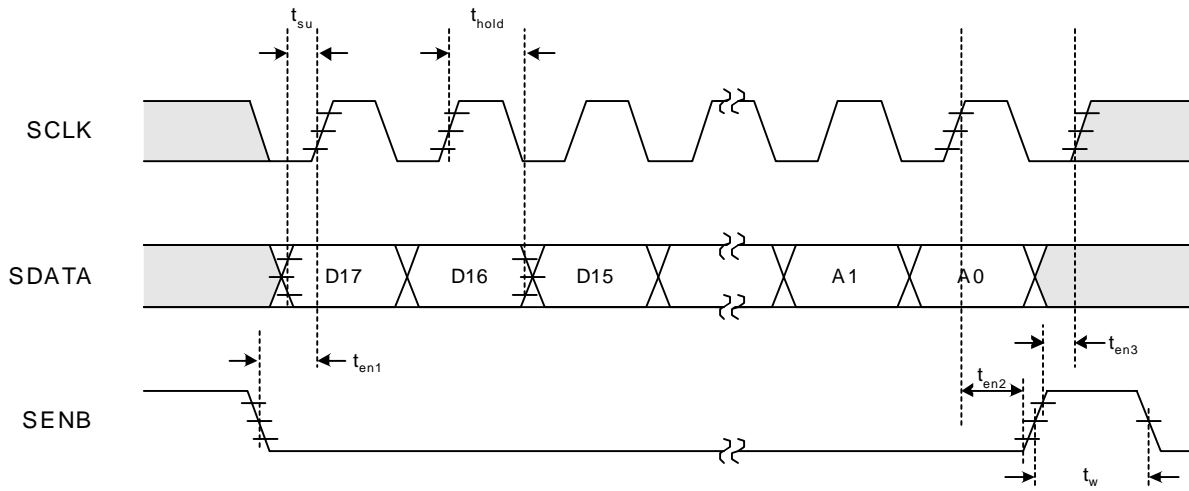
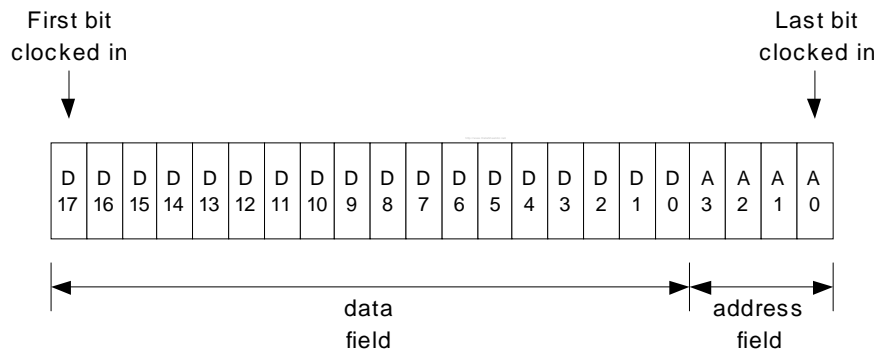

Figure 2. Serial Interface Timing Diagram
Figure 3. Serial Word Format
| SDATA Setup Time to SCLK \uparrow ² | t_{su} | Figure 2 | 5 | — | — | ns |
| SDATA Hold Time from SCLK \uparrow ² | t_{hold} | Figure 2 | 0 | — | — | ns |
| SEN \downarrow to SCLK \uparrow Delay Time ² | t_{en1} | Figure 2 | 10 | — | — | ns |
| SCLK \uparrow to SEN \uparrow Delay Time ² | t_{en2} | Figure 2 | 12 | — | — | ns |
| SEN \uparrow to SCLK \uparrow Delay Time ² | t_{en3} | Figure 2 | 12 | — | — | ns |
| SEN \downarrow Pulse Width | t_w | Figure 2 | 10 | — | — | ns |
2. Timing is not referenced to 50% level of waveform. See Figure 2.
A timing diagram for the serial interface is shown in Figure 2 on page 7. Figure 3 on page 7 shows the format of the serial word.